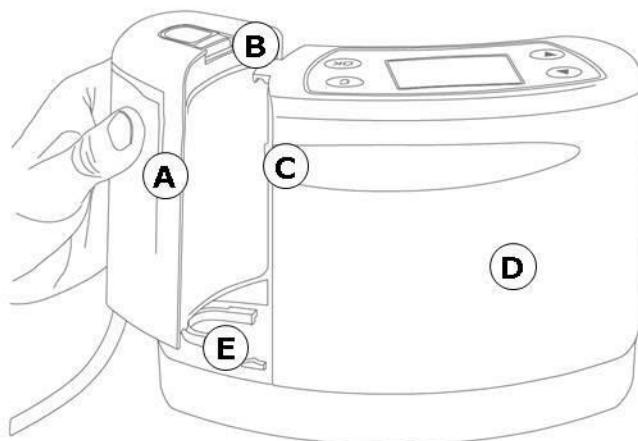

Fig. 5 Connecting the disposable secretion canister
1. Remove the disposable secretion canister (250 ml) (fig. 5 (A)) from the packaging.
2. Slide the canister on the guiding rails (fig. 5 (E)) of the **simex cuff M** until the disposable secretion canister clicks into place in the locking mechanism (fig. 5 (B)).